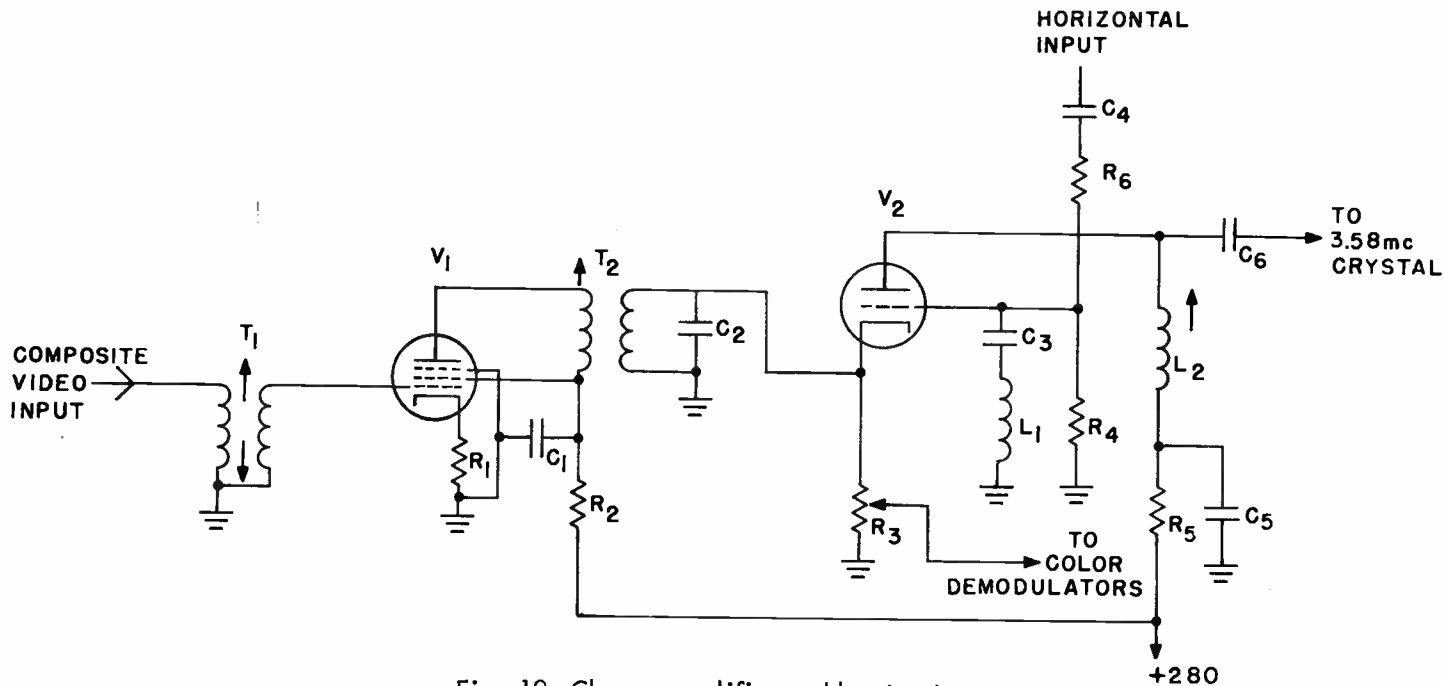

Fig. 19. Chroma amplifier and burst gate.
A chroma amplifier and burst gate is shown in Fig. 19. In this circuit, the color signal is taken from the video amplifier and fed to the color input transformer, T_1 . Both the primary and secondary of T_1 are tuned to resonance at approximately 3.58 mc. The entire color signal is fed to the grid of V_1 and amplified by this stage. The amplified signal current flows through the primary of another color transformer, T_2 , and is inductively coupled to the secondary. The secondary of T_2 is connected to the cathode of V_2 . In the cathode circuit of V_2 we have a potentiometer, R_3 . The center terminal on the potentiometer is connected to the color demodulator stages. Thus we have a color signal taken off at this point and fed to the color demodulators. At the same time, the entire color signal is fed to the cathode of V_2 .
- (t) In the two-stage amplifier circuit shown in Fig. 19, in which stage is the burst signal separated from the color signal?
This circuit is used with the chroma amplifier and the burst gate shown in Fig. 19. The capacitor labeled C_6 is the same capacitor in both circuits.